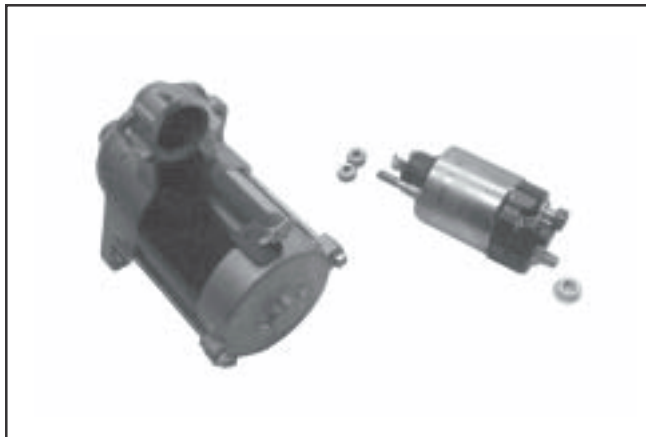

Figure 8-58. Starter with Solenoid Removed.
2. Remove the two hex flange nuts securing the solenoid, and carefully separate the solenoid from the starter assembly (the front end of solenoid must be lifted slightly to permit disengagement from drive lever in starter). See Figure 8-58.